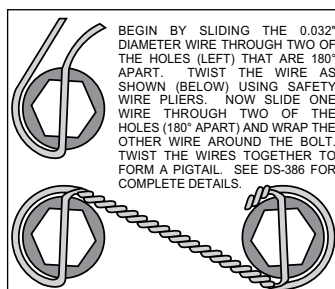

Figure 5. Safety Wire Diagram
•Once the caliper positions have been determined, remove both the service (17) and EPB (23) calipers, leaving both brackets in place on the backing plate. For the EPB bracket, remove the bolts one at a time, apply red Loctite® 271 to the threads, and torque to 35 ft-lb. The service caliper bracket will be final installed after shimming is determined.
•Orient the rotor (13) and the hat (14) as shown in Figure 1 and Photo 8. Attach rotor to hat using bolts (15) and washers (16). Using an alternating sequence, apply red Loctite® 271 to the threads, and torque to 155 in-lbs. For an added measure of security, the bolts may be safety wired using standard 0.032 inch diameter stainless steel safety wire as shown in Figure 5. Please refer to Wilwood's data sheet DS-386 (available at www.wilwood.com/Pdf/DataSheets/ds386.pdf) for complete safety wire installation instructions.
•Slide the rotor registration adapter (12) onto the register on the axle flange with the smaller O.D. facing toward the rotor/hat (13 and 14), Photo 9.